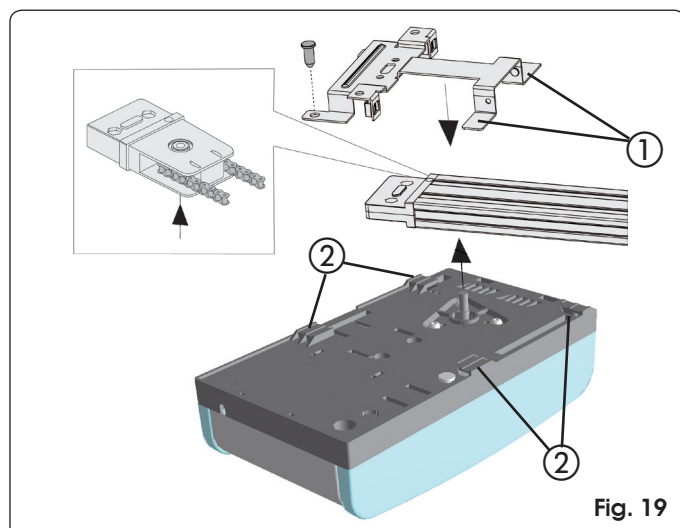
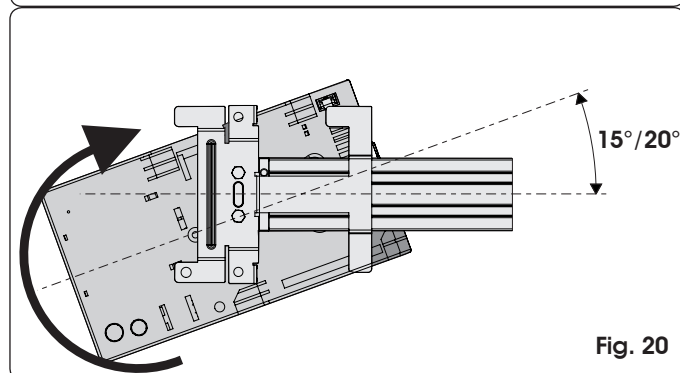
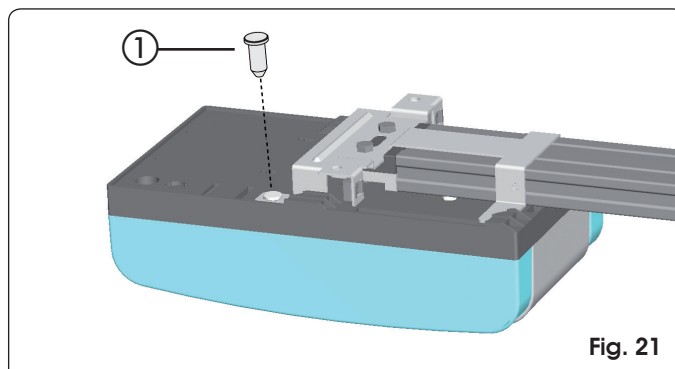

Fig. 19
Fig. 20
Fig. 21
- 1) While keeping the operator inclined at 15°/20° (Fig. 20), insert the gearmotor shaft in the coupling on the rear fitting of the sliding guide and make the fins (Fig. 19 ref. ①) near to the seats at the bottom of the operator base (Fig. 19 ref. ②).
- 2) Turn the operator in the direction of Fig. 20 until you reach position of Fig. 21, and fit the pin in the hole of the rear fitting (Fig. 21 ref. ①).